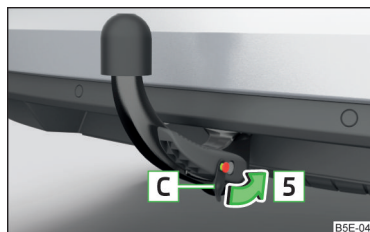

Fig. 301
- Fit and press cap **C** onto the lock in the direction of arrow **5** » Fig. 301.